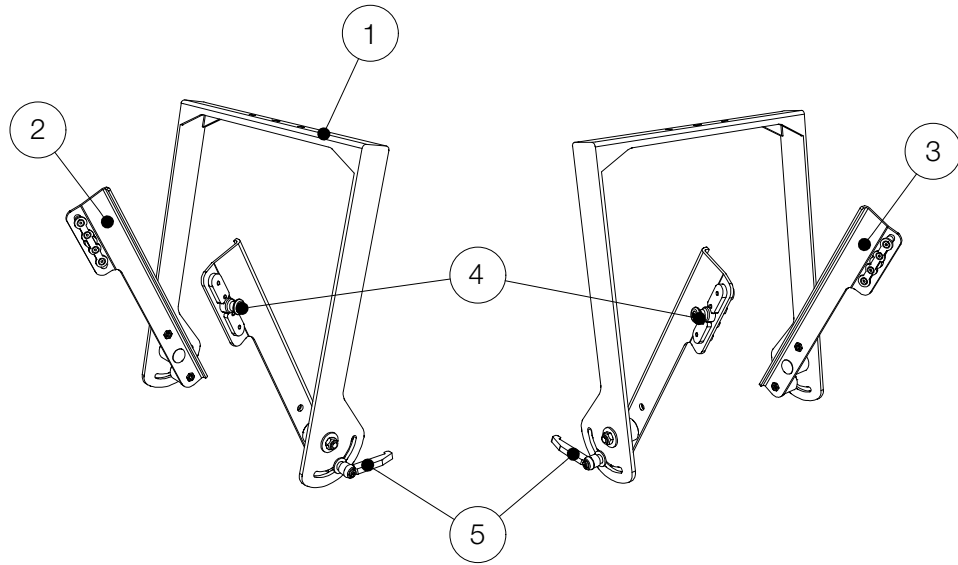

Figure 2.1 - Overview
3. Then pull the two retainers (see figure 2.1 - pos.3) each to the side.